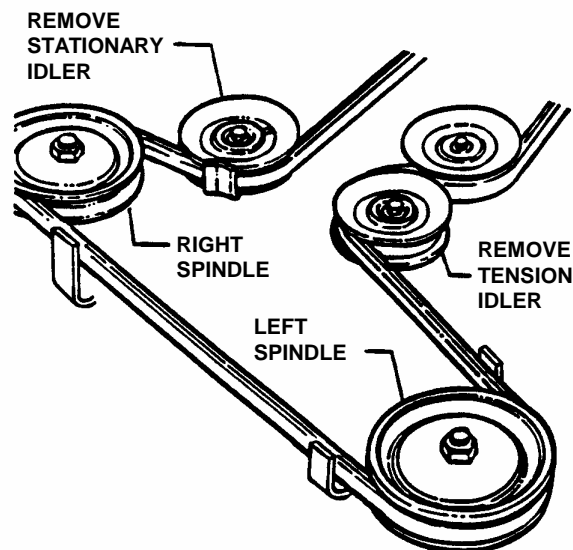

FIGURE 4.15
8. Remove idler. See Figure 4.15.
9. Route belt onto spindle pulley. Make sure belt is inside spindle belt guide and idler belt guide. Route belt as shown in Figure 4.15.